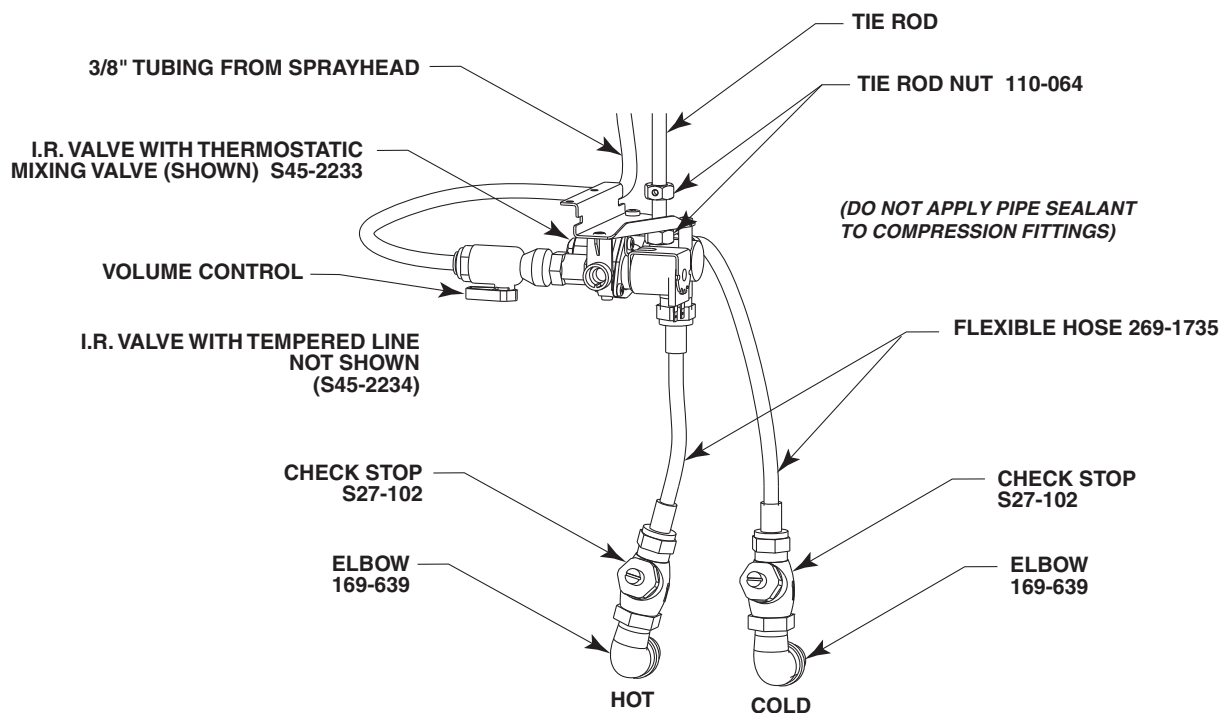

Figure 9a
A USING PIPE THREAD SEALANT, THREAD SUPPLIED 1/2" STREET ELBOWS INTO THE 1/2" ANGLE SUPPLY STOPS (SEE FIGURE 9A, PAGE 12)
- F** HOLDING THE VALVE ASSEMBLY OUTSIDE OF PEDESTAL, CONNECT 3/8" TUBING FROM SPRAYHEAD TO VALVE ASSEMBLY TUBE CONNECTOR (SEE FIGURE 9A ON PAGE 12).
- G** THREAD ONE SUPPLIED 3/8" NUT ONTO THE TIE ROD. SLIDE VALVE ASSEMBLY ON NEXT AND SECURE WITH ANOTHER 3/8" NUT. SEE FIGURE 9A.